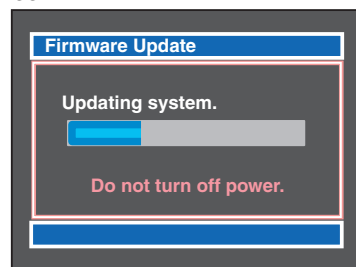

Fig. 1-2b
- System firmware (Fig. 1-2b: The updating progress is displayed with bar)